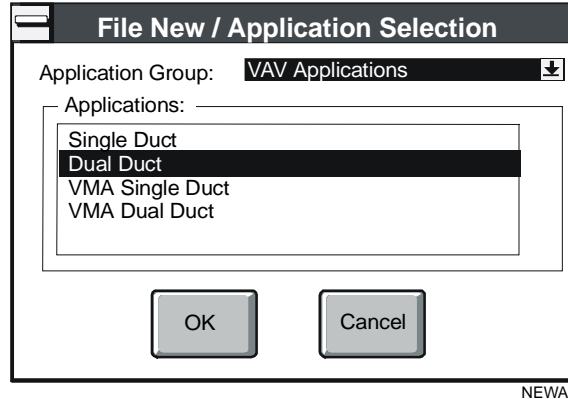

Figure 2-2: File New/Application Selection Dialog Box
1. On the File menu, click New. The File New/Application Selection dialog box appears (Figure 2-2).